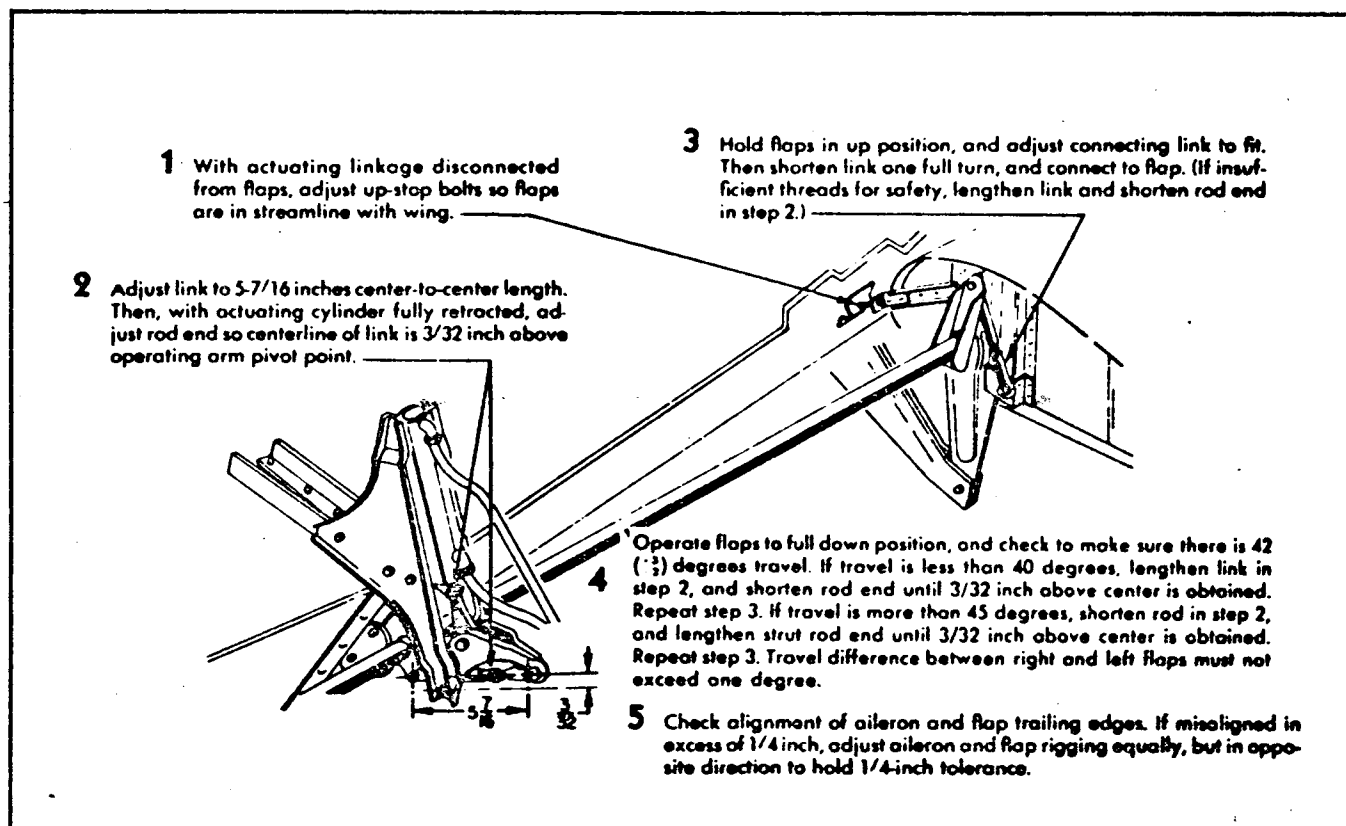

Figure 29 - ADJUSTING WING FLAP OPERATING MECHANISM
7. Operate wing flaps and check adjustments as shown in figure 29. Flaps should operate up or down in 9 to 12 seconds.